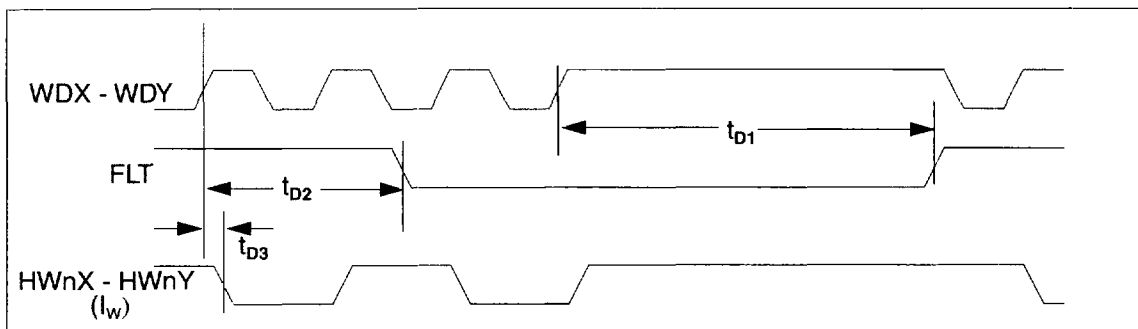

Figure 1: Write Mode Timing Diagram
* See Figure 1 for write mode timing diagram.